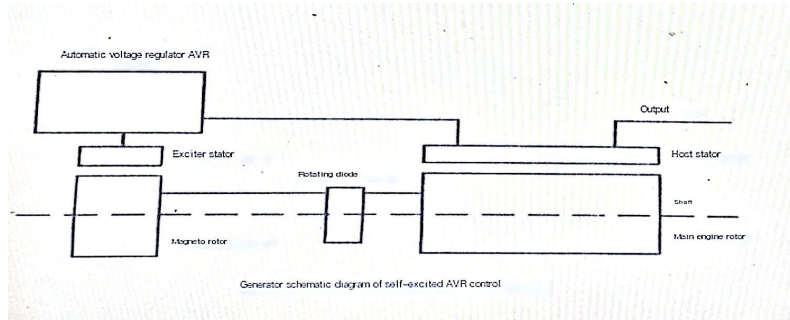

Figure 2.6 Intelligent AVR Controlled Alternator Schematic
① Usually the stator of a three-phase synchronous alternator is the armature and the rotor is the. The whole process begins with the diesel engine landing to drive the internal components of the alternator. The principle of the brushless self-excited alternator is to use the testimony of the master and slave to produce a small AC voltage signal on the master stator. This small AC signal is sent to the automatic voltage regulator (AVR), AVR rectification into a DC signal, and it will be added to the excitation electronics.
② When this direct current is passed through the exciting stator, a magnetic field magnetic field is generated, and an alternating voltage is induced on the excitation rotor and is delivered to a rectifier that is rotatable with its synchronous rotation, and the AC voltage is converted to DC.
③ When this DC voltage appears in the main rotor, it produces a stronger magnetic field than the original instantaneous, so a higher AC voltage is induced on the main electron.
④ This higher AC voltage circulates through the entire system and induces a higher DC voltage back to the rotor. This is repeated until an approximate rated alternator output voltage is produced. At this point the automatic regulator begins to limit the voltage to the force, magnetic, and electronic, which in turn limits the total output voltage of the alternator. The whole accumulation process of voltage from no to the set value generally does not exceed one second, which is very short, so that users can be satisfied with the requirement of putting into use as soon as possible. Figure 2.6 is a schematic diagram of a self-contained AVR controlled alternator. The stator of the main machine provides